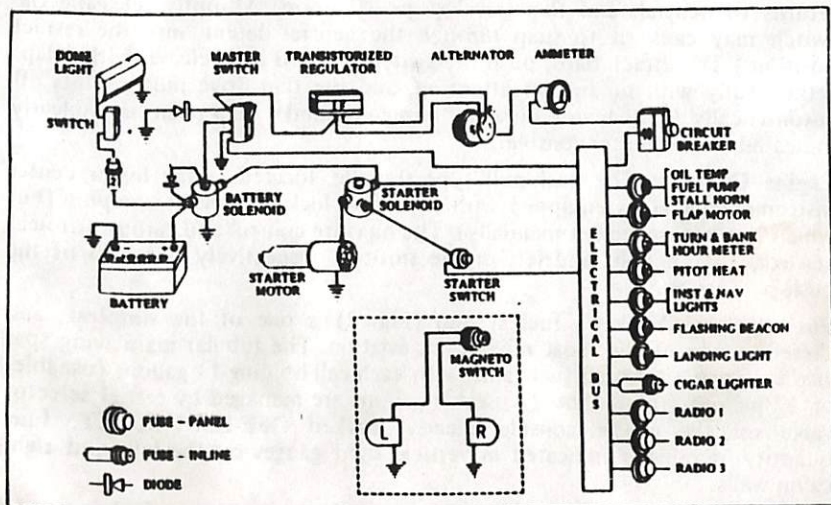

Figure 3. Schematic of Yankee's Electrical System.
**Electrical System:** Yankee's electrical system (Fig. 3) is extremely simple, yet is quite sophisticated in its approach to reliability. It employs a brushless 14-volt, 40-amp alternator which inherently eliminates a major source of electrical noise (i.e., the brushes in traditional generators), and which maintains proper bus voltage regardless of engine speed. Internal power diodes in the alternator deliver DC power direct to the main bus through a 40-amp circuit breaker. An external transistorized voltage regulator controls the alternator's output voltage, and *automatically* increases the battery charging voltage at low ambient temperatures.